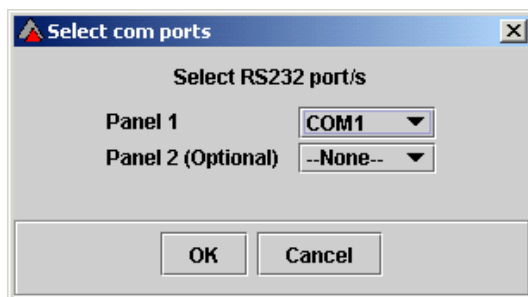

Figure 8 : Select com ports dialog
- [2] Select the **Ports** option. The **Select com ports dialog** shown in Figure 8 will be displayed. This dialog permits the selection of up to two Comm Ports for use with a CaddX NXE-8 Control/Communicator Panel. The second port can be used for another CaddX Panel.